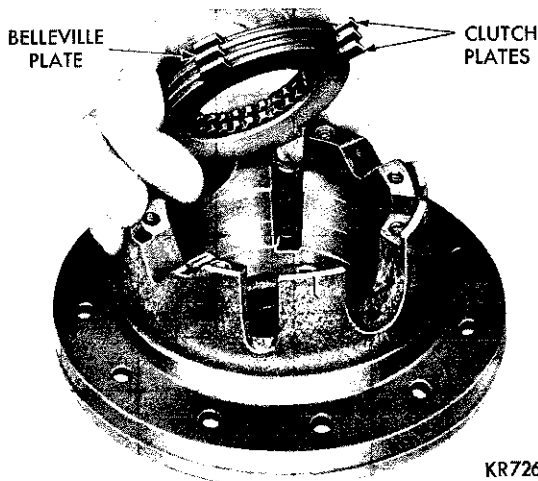

Fig. 47—Removing or Installing Clutch Plates from Differential Case
(5) Remove the remaining side gear (Fig. 45) the side gear retainer (Fig. 46) and the clutch plates (Fig. 47).